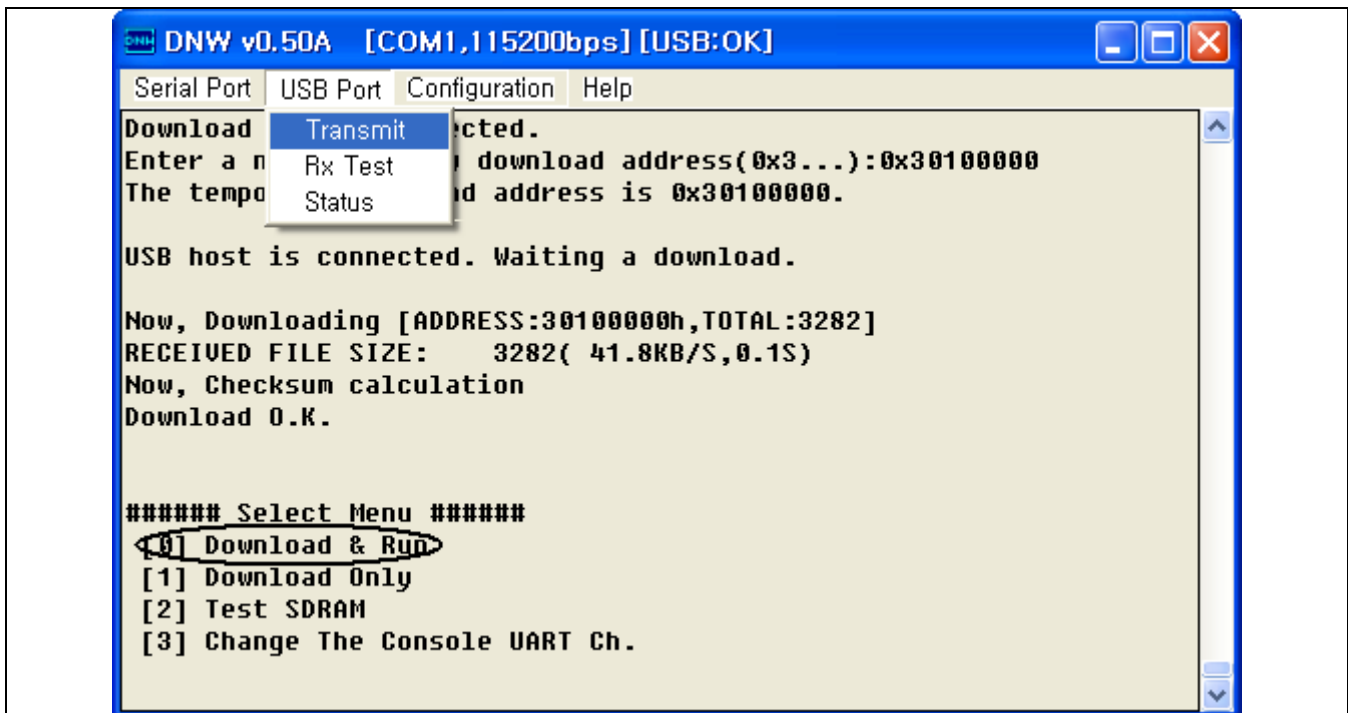

Figure 3-9. DNW Window (File Open Dialog Box)
9. For downloading 2440test program, select Download & Run item on the DNW window and download 2440test program like step 7 (See Figure 3-9).